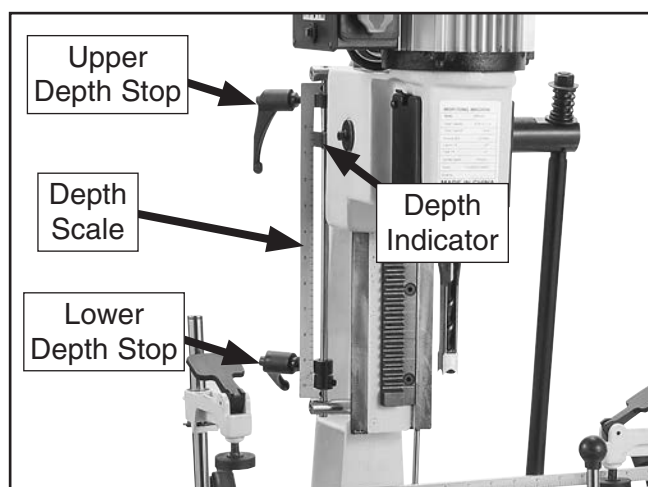

Figure 25. Depth stop controls.
2. Tighten lower depth stop against base of depth indicator (see **Figure 25**).